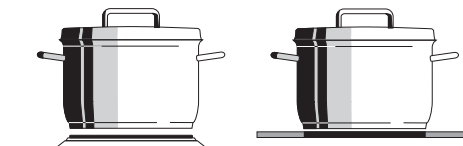

fig. 11
- The diameter of the base of the pan should cover the zone completely (Fig. 11).